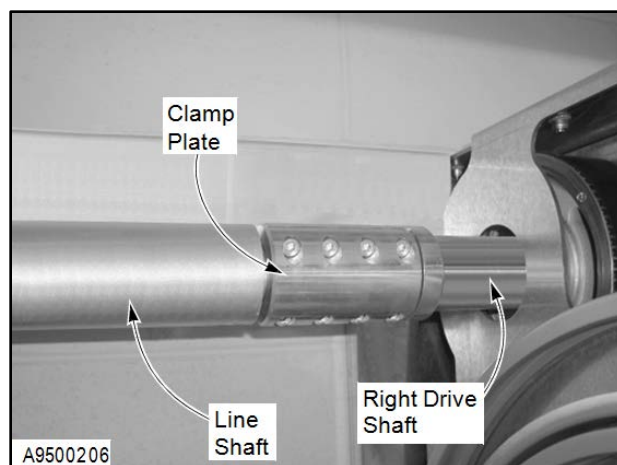

Figure 24
7. Inspect the hardware used to clamp the line shaft to the left and right drive shafts. Tighten the hardware as required. Replace any missing or damaged hardware. (See Figure 24.)